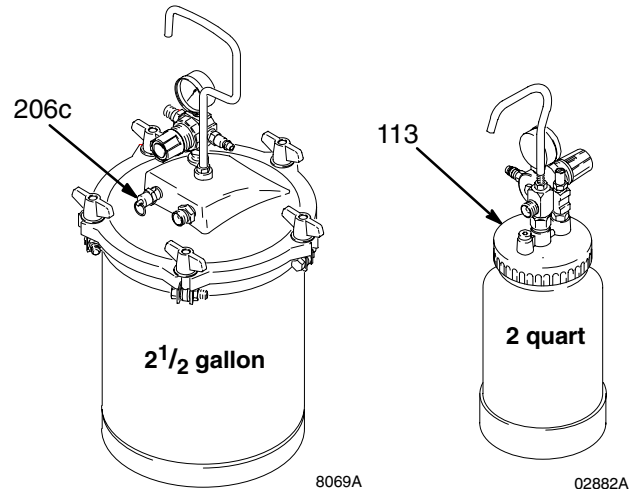

Fig. 14
1. Relieve remote pressure pot pressure as follows (see Fig. 14):